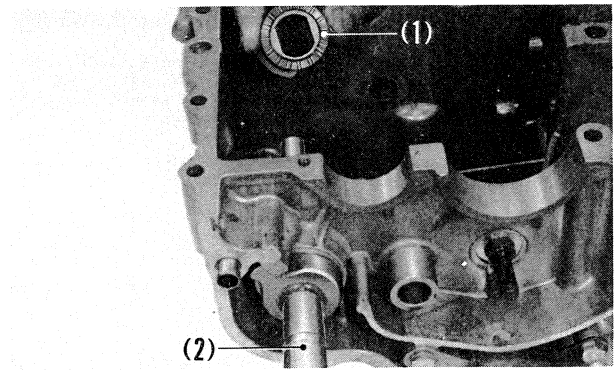

Fig. 4-80 (1) Kick starter ratchet
3. Install the kick starter ratchet so that the kick starter spindle is positioned as shown in Fig. 4-80.